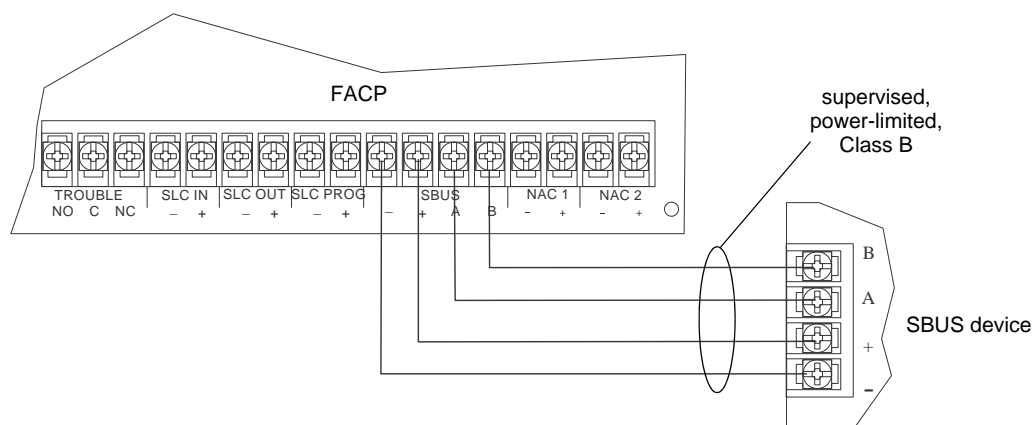

Figure 4.7 SBUS Class B Wiring
Figure 4.7 illustrates the Class B configuration.
3. Connect the RA-1000/R to the panel (see Figure 4.7).
4. After the annunciator wiring to the panel has been completed (refer to Figure 4.7), replace the electronic assembly in the back box. Place the bezel over the back box and tighten the set screws on the bezel.